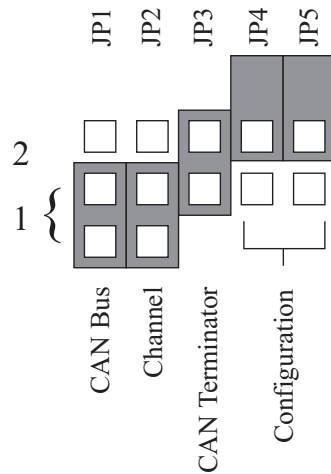

Figure 20: Jumper Settings
1. Make sure that jumpers JP1 and JP2 on the *RelayNode 8* are fitted in position 1, as shown in Figure 20.
2. Make sure that jumper JP3 on the *RelayNode 8* is fitted, as shown in Figure 20.
3. Make sure that jumpers JP4 and JP5 on the *RelayNode 8* are not fitted. Refer to Figure 20.